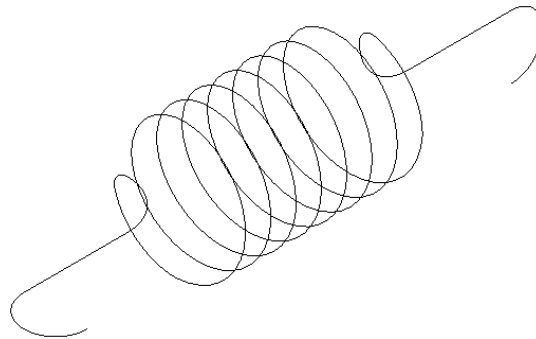

Figure 9-123 Composite curve
- c. Combine the end clips and the helical curve to create a single curve using the **Composite Curve** option, refer to Figure 9-123.
The composite curve is created. The composite curve created is displayed in Figure 9-123.